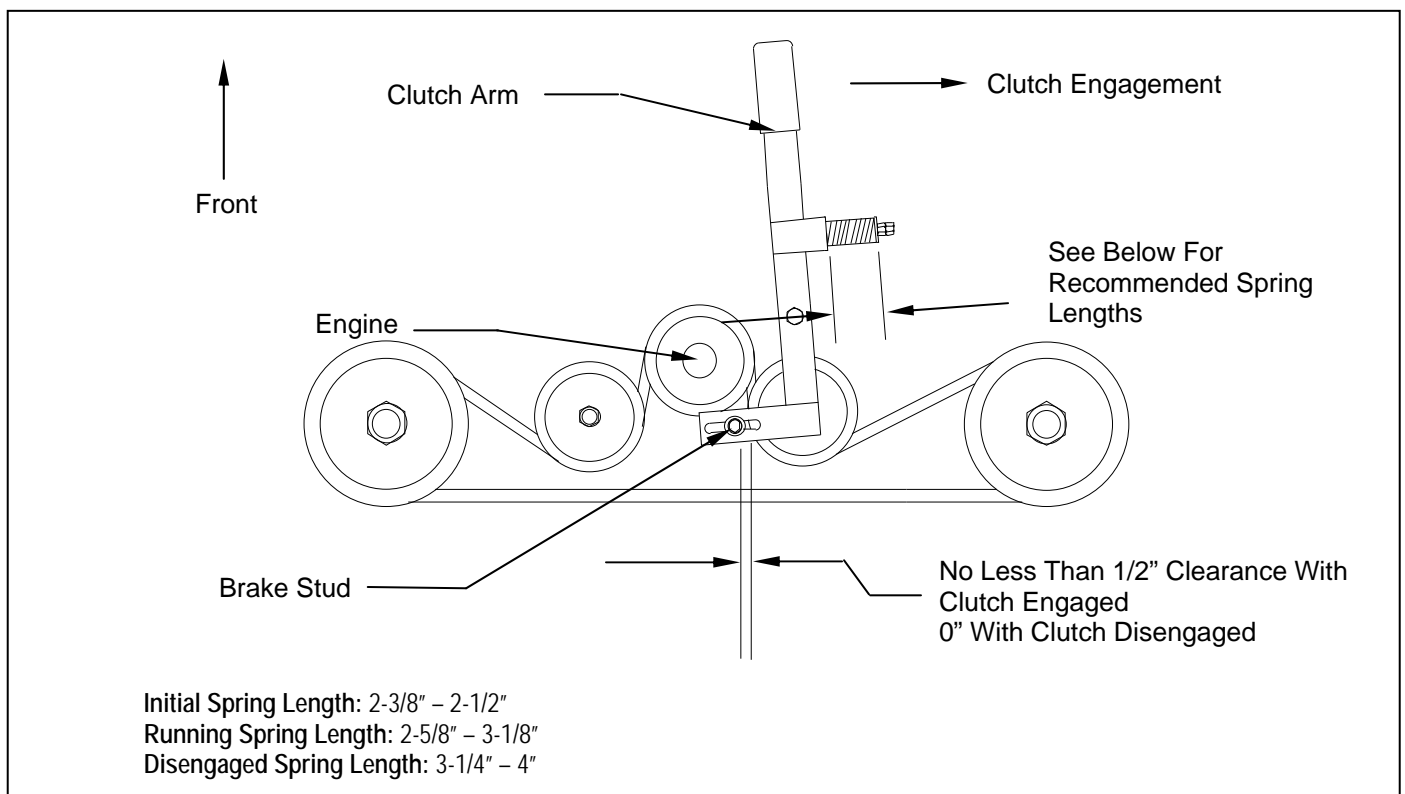

Figure 7: Belt Pattern, Spring Adjustment, and Brake Adjustment
F. DRIVE BELT REMOVAL AND TENSION – Refer to Figure 7
Install the new belt and then adjust the tension as follows: **See Figure 7.** Take special care to make sure that the belt is placed between the brake stud and the idler pulley.